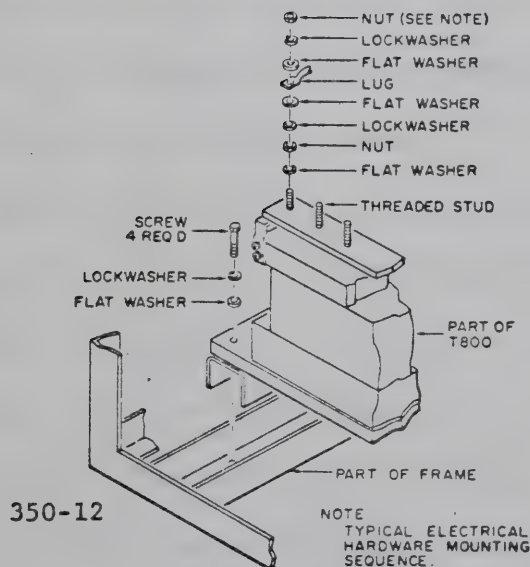

Figure 4-6. Transformer T800, Installation Diagram.
- b. Position power transformer T800, Figure 4-6, into the bottom front of main frame.